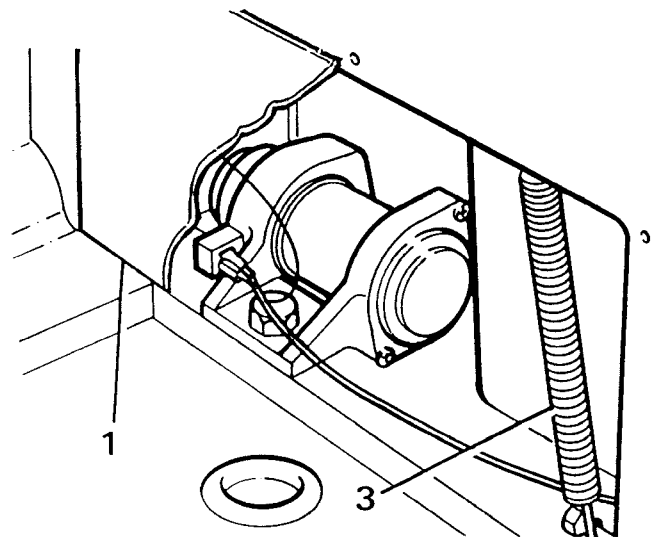

Figure 5
1. Remove the four screws which secure the access panel to the partition. See figure 5.
3. Disconnect return spring from seat bracket. See figure 5. Remove seat assembly.